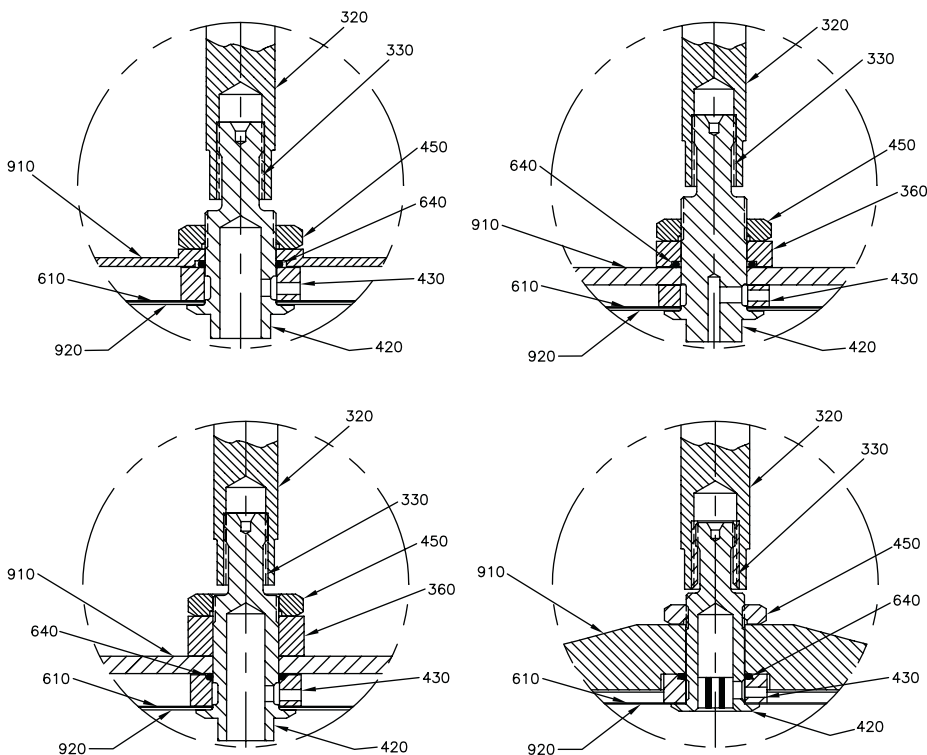
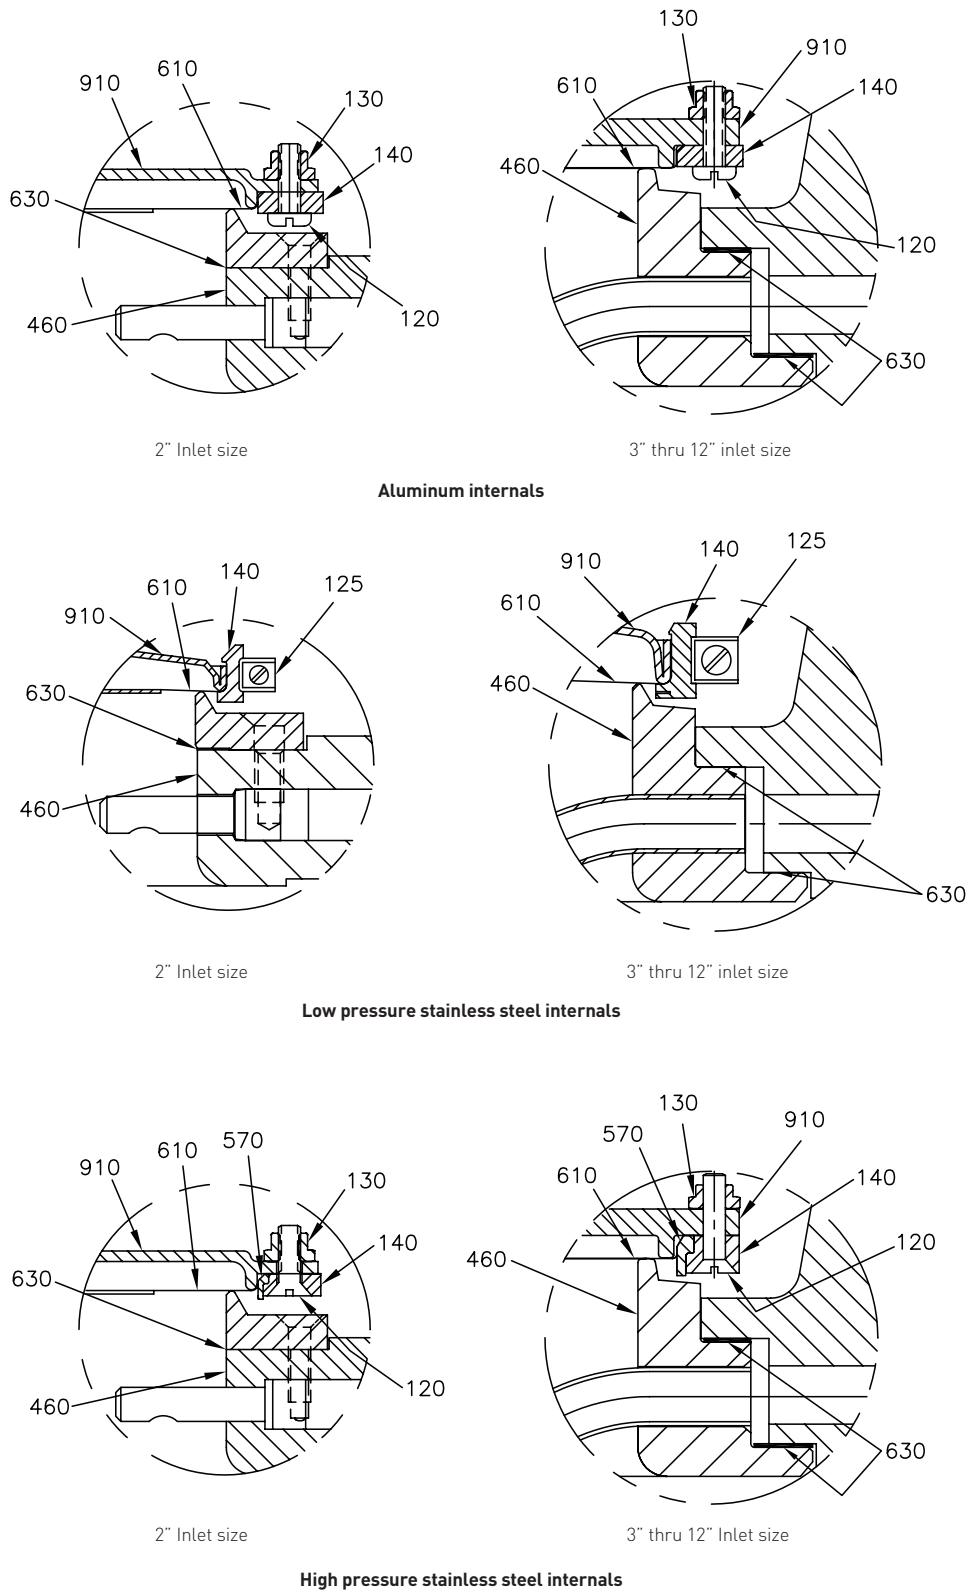

FIGURE 4, DETAIL D
FIGURE 5, DETAIL E
2.4 Main valve seat disassembly and replacement (bolted) (refer to Figure 4, detail D, and Figure 5, detail E)
2.5 Main valve seat disassembly and replacement (banded) (Refer to Figure 4, detail D and Figure 5, detail E)
Tightening the jam nut (450) prior to stretching the film (610) will cause ripples in the film. (See Figure 5, Detail E)
7. Remove the seat hub (420) from the vise and install it into the fixture. Then install the seat retainer (140) (beveled side down) onto the seat film (610), and then install the clamp band (125) and tighten.
8. Using a heat gun, apply heat to the seat film (610) in a circular motion approximately 2" to 3" above surface until all ripples and creases are gone. This usually takes less than 1 minute. Now tighten jam nut (450) wrench tight.
9. Trim excess film (610) from back side of seat plate (910) to complete reassembly process.